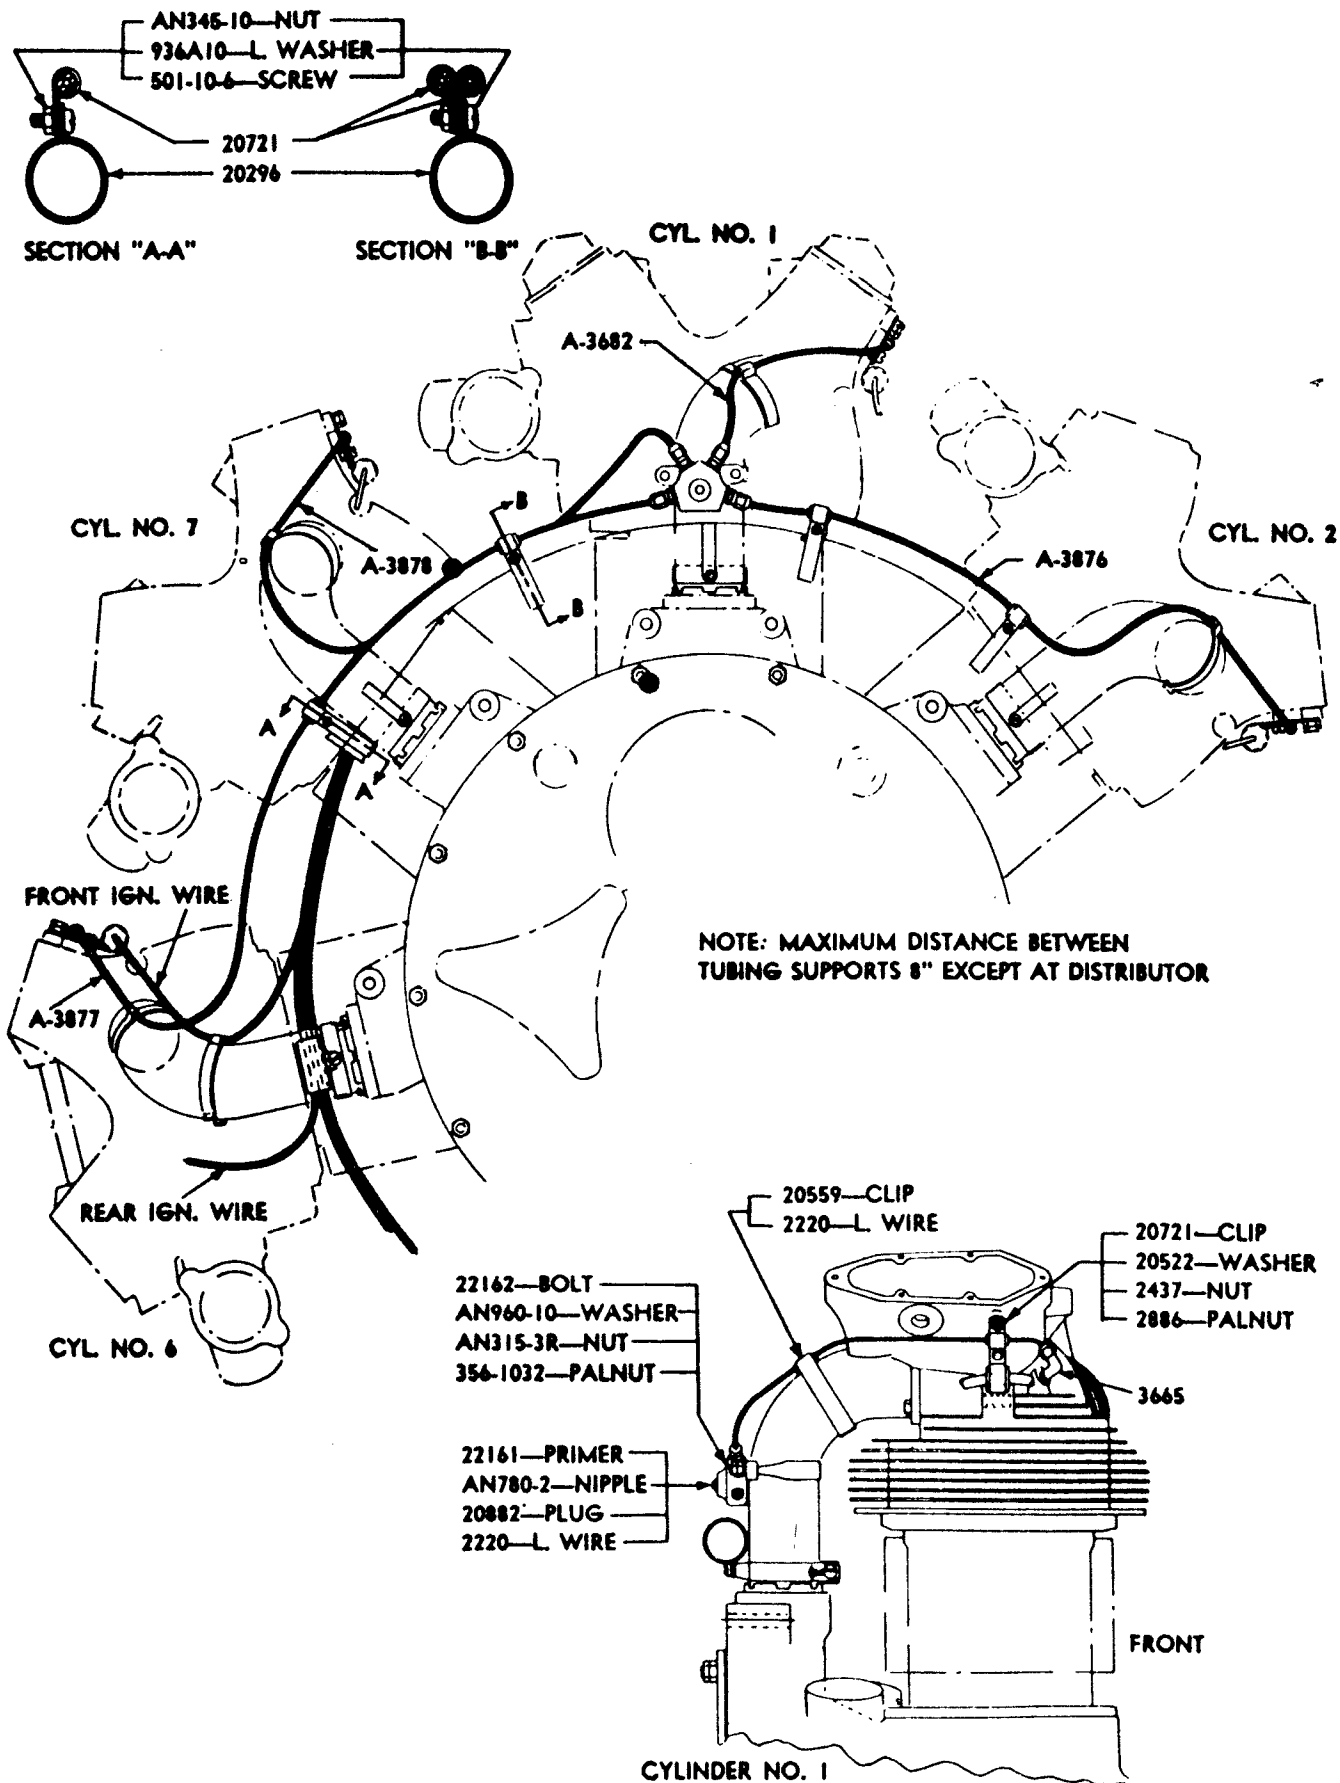

Figure 27 — Priming System Diagram
13. PRIMING SYSTEM (See figure 27)
14. COOLING (See figure 27)